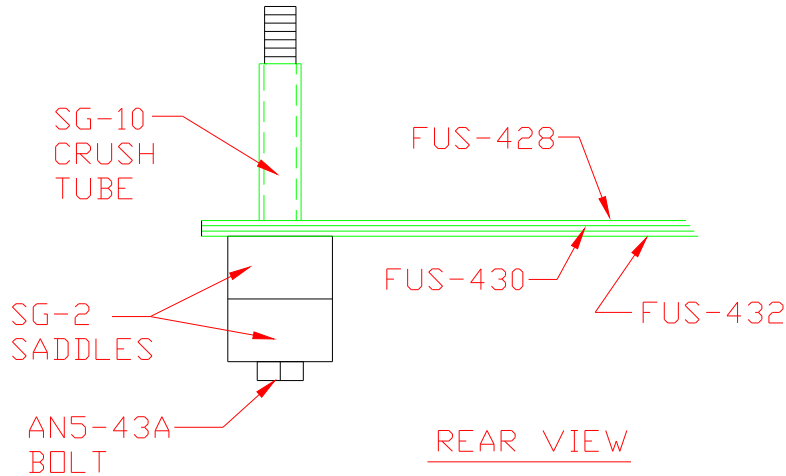

Figure 10.2.2
- 3) Bolt the SG-2 assemblies into place using the two outboard 5/16” holes that run through the FUS-5 Carrythrough. Figure 10.2.2. **NOTE:** Make sure you have a crush tube in place before installing the saddles.
- 4) Leave the bolts slightly loose so the SG-1 Spring Gear can be slid into place. Figure 10.2.2. **NOTE:** FUS-5 Carrythrough not shown for clarity.